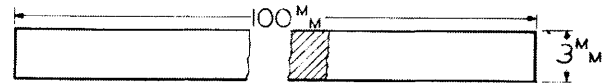
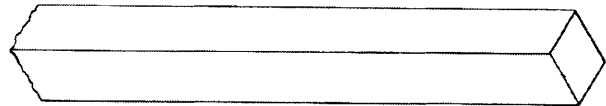

Fig. 27-8
Fig. 27-8P
In order to obtain practice in filing, polishing, hardening and tempering, we will make two jewellery tools. They are made from 3 mm square tool steel or drill rod approximately 100 mm in length, figure 27-8. Each step is accompanied by two illustrations. One gives the dimensions in millimeters or fraction thereof and the other is a projection illustrating each cut as it is made. For example: figure 27-8 illustrates a piece of square steel 100 mm long and 3 mm square. Figure 27-8P is a projection of the end to be worked upon. Figure 27-9 illustrates the same piece of steel with a section 20 mm long and 1 mm down from the front edge to be filed away. The projection, figure 27-9P, illustrates the piece of steel after this has been done. Follow each step carefully and work slowly.
1. Clamp the rod in vise allowing approximately 22 mm to extend beyond the jaws of the vise, figure 27-8 and 27-8P.